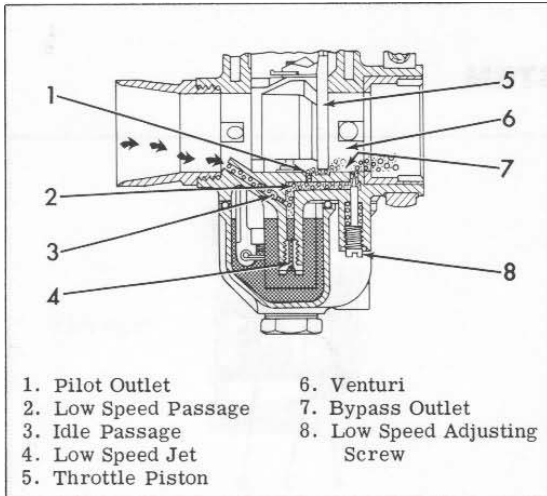

Figure 3.28. Carburetor - Low Speed Operation
The fuel supply to the engine under these conditions is through pilot (1) and bypass outlets (7) as shown in Figure 3.28. When the opening provided by throttle piston (5) is small (at low or idle speeds), fuel is metered by low speed jet (4) and is mixed with air coming in through low speed passage (2). This mix is then directed through idle passage (3) to both pilot (1) and bypass outlet (7).
Low speed adjustment is made by means of low speed adjusting screw (8), Figure 3.28. If engine tends to stop or stutter, the fuel supply is too lean and should be increased by turning screw counterclockwise. If engine tends to race or run irregularly, the fuel supply is too rich and should be reduced by turning screw clockwise until engine runs smoothly.